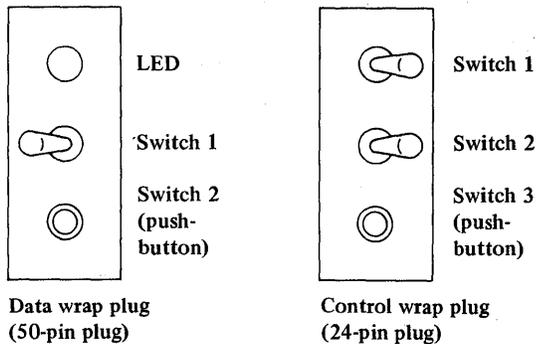

Figure 4-15. Manual protected mode wrap plugs
- Set the toggle switches on the data wrap plug and the control wrap plug as shown in Figure 4-15.
Are all switches positioned as shown in Figure 4-15?